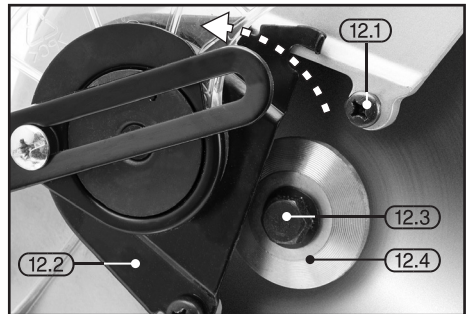

FIG.23
8.22 BLADE REMOVAL – FIGS.23 – 27